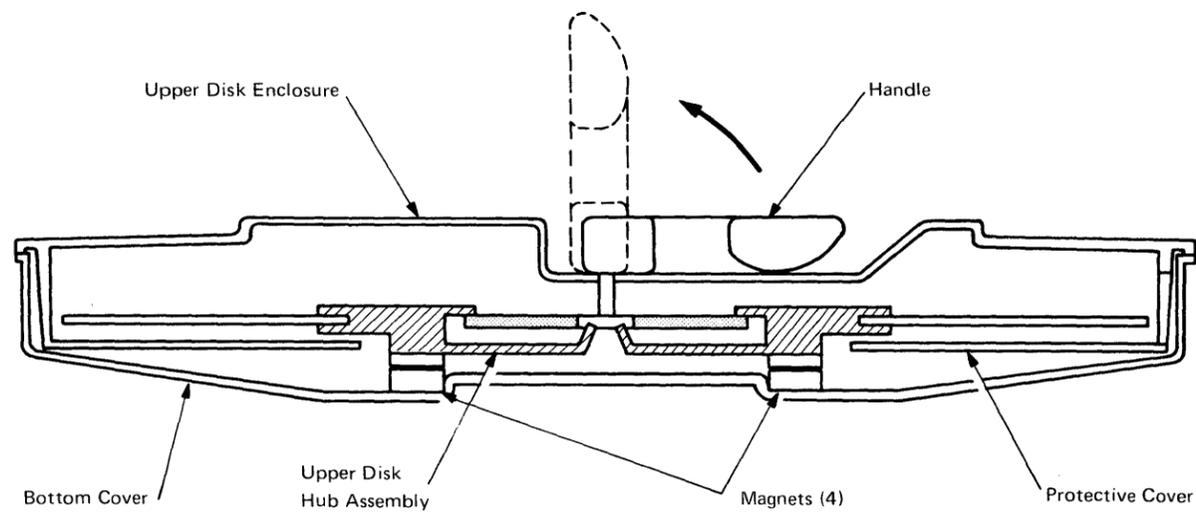

Figure 1-10. 5440 Disk Cartridge [07470]
- The removable upper disk on its hub assembly is permanently enclosed in the 5440 Disk Cartridge (Figure 1-10) to protect the recording surfaces.
When removed from the machine, the upper disk enclosure is placed in a bottom cover (see Figure 1-10).